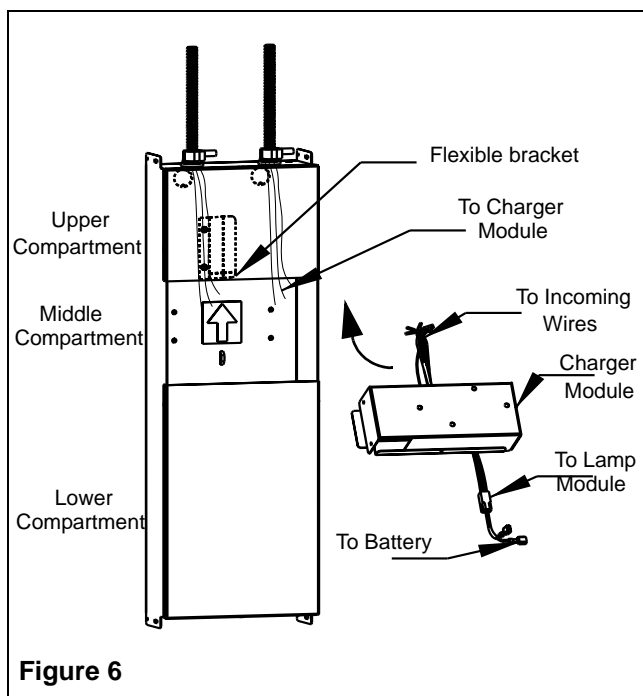

Figure 6
Charger Module Installation (Figure 6)
9. Place the charger module in the back-box with the outgoing wires on the right side. Enter the module at an angle, to bypass the flexible bracket in the back-box; then slide the module upward, until it is latched by the flexible bracket (Figure 6).